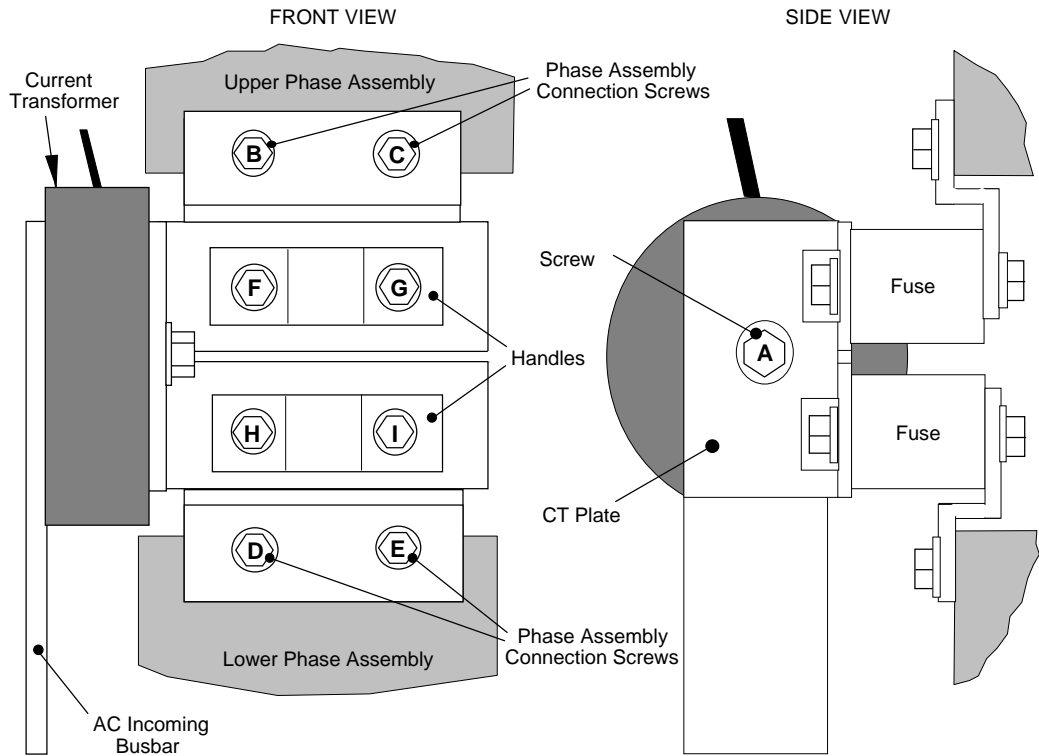
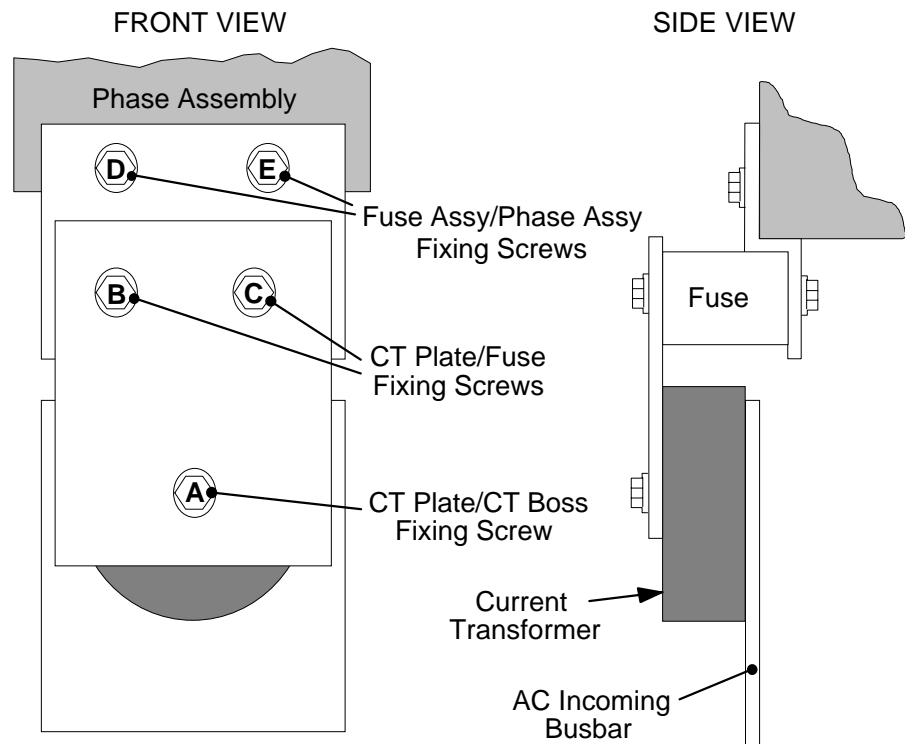

Figure 8-1 590+ (1200-2700A) Fuse Replacement Diagram
Figure 8-2 591+ Fuse Replacement Diagram
1. Referring to Figure 8-1 (590+) or Figure 8-2 (591+), remove the M12 screw (A). Undo the four screws (B, C, D, E) which allows the CT plate and fuse assembly to be removed.